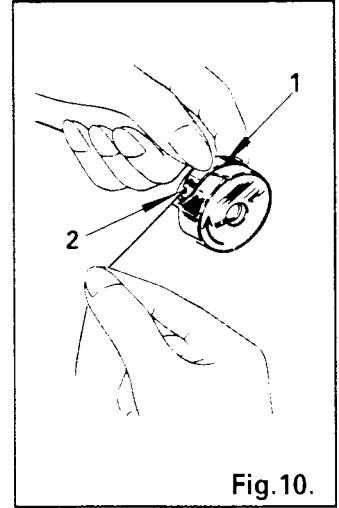
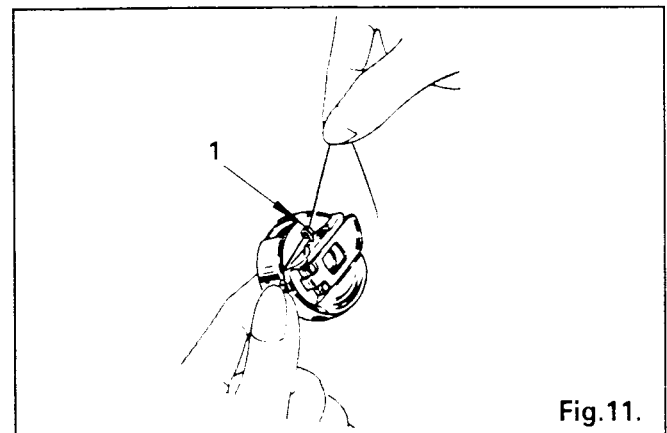

Fig. 10.
Fig. 11.
3. Draw thread out from slot (2) on end of spring (1), Fig. 10 and pass it through bobbin case thread guide (1), Fig. 11. Allow about 4 inches of thread to hang freely from bobbin.
NOTE: When straight stitching, a better result can be obtained if bobbin thread is not threaded through bobbin case thread guide (1), Fig. 11.